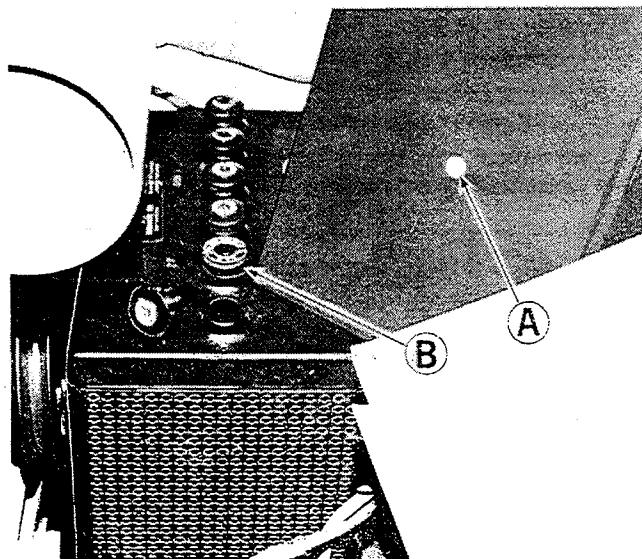

Figure 24. Battery service.
**CHECK THE BATTERY WATER LEVEL:** See figure 24. The battery water level may be checked by looking through the cover hole (A) at the Delco eye (B). When the battery is low on water, the Delco eye will light up. The Delco eye must be kept clean and installed in the second cell from the positive battery terminal. The battery cover may be removed to check each cell individually and for adding water. When the battery is in use water evaporates from it. **NEVER ALLOW THE WATER LEVEL IN THE BATTERY TO GET BELOW THE TOP OF THE PLATES.** Fill the battery to the marking ring with distilled water. If distilled water is not available, clean tap water may be used. Water evaporates faster under high operating temperatures. Check the battery more often in warm weather.